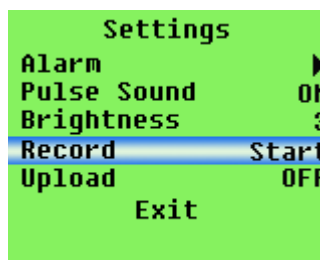

Figure 9.
**a.** On the main menu interface, press the "up button" or "down button", move the menu choice bar to "Record", then press the "menu button" again to enter the dialog box of figure 9: if it is in recording state, the "Stop" is displayed on menu; if it is not in recording state, the "Start" is displayed on menu.